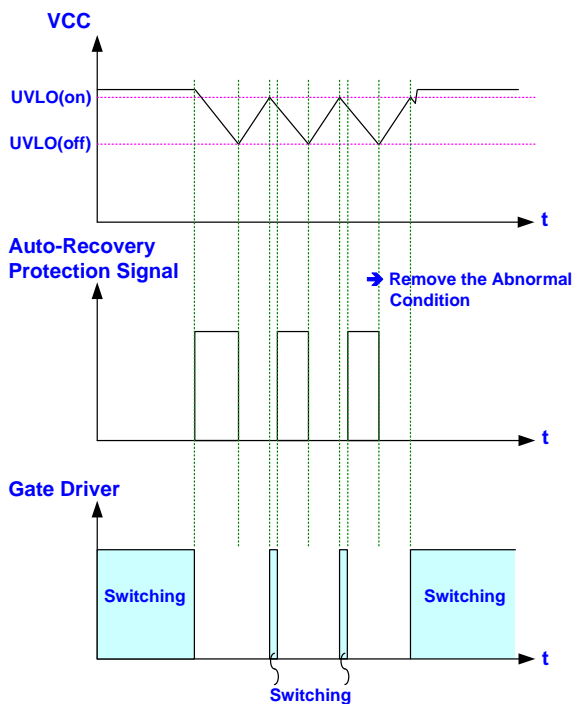

Fig 30.
As Auto-Recovery protection circuit latches the operation, the gate output will switch for a short term as every time VCC rises back to UVLO(ON). It therefore forces the VCC hiccup between UVLO(ON) and UVLO(OFF). As soon as the fault condition is removed, the system will resume its operation right away. Fig 30 shows the operation.